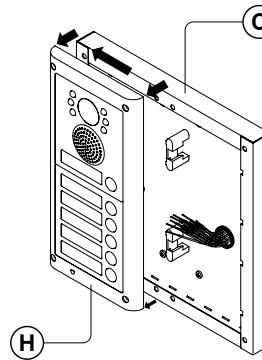

fig. 9
6. As shown on **Fig. 9**, pull back the module support frame **H** while moving it slightly to the left as suggested by the pointers;